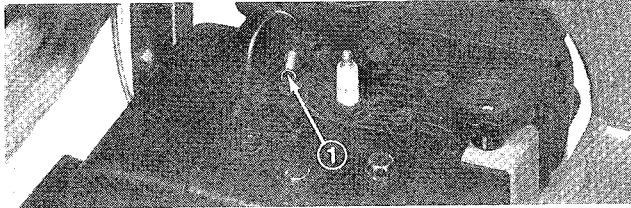

Figure 18
1. Pull high tension wire off spark plug and install in v-notch (Fig. 18).